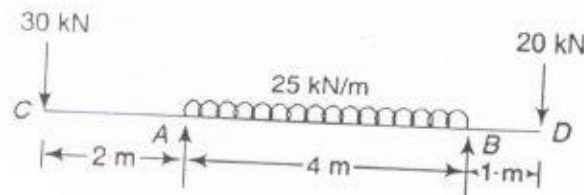

Fig. 3
- Q.3. B **Draw** SF and BM diagram for the beam shown in Fig. 3 and **identify** the point of maximum bending moment.
Q.3. B Draw SF and BM diagram for the beam shown in Fig. 3 and identify the point of maximum bending moment.